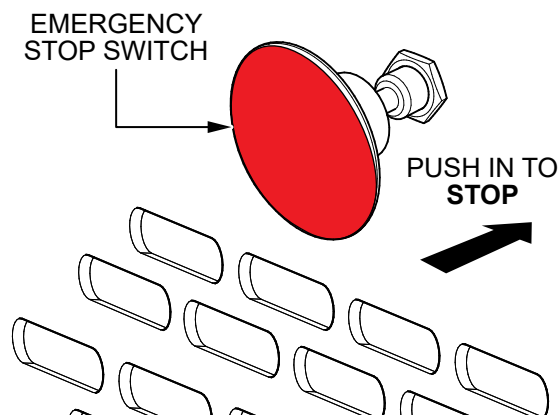

Figure 26. Emergency Stop Switch (STOP)
- Once the engine has started, the emergency stop switch should be tested for proper operation. Press the emergency stop switch (Figure 26) and observe that the engine has stopped.